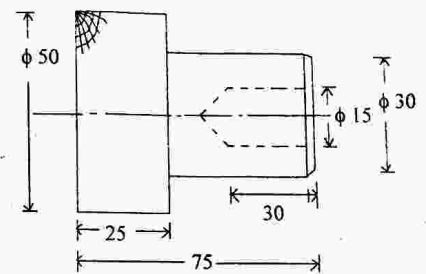

Fig. Q. 6
6. (a) Draw the tool layout for the component shown in Fig. Q. 6. 9